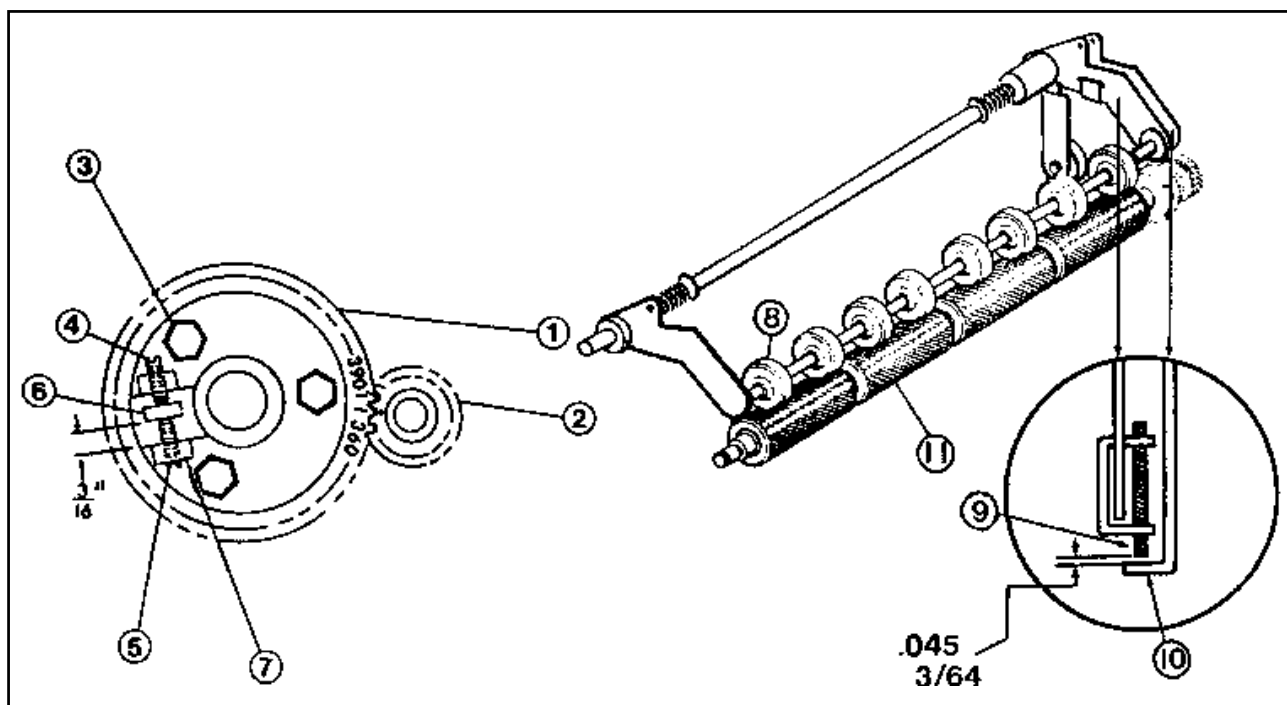

Figure 48 - Paper Buckle Adjustment
2. Check that the 360 timing mark on buckle gear (1) and dot on pinion gear (2) are aligned (see Figure 48).
3. Loosen locking screws (3).
4. Preset screws (4 and 5) for $\frac{3}{16}$ " between cam plate (6) and boss (7) of gear (1).
7. Manually feed a sheet of paper into the grippers until lever (8) just contacts (but does not lift) the adjustment screw (9) on lever (10). The upper forwarding roller (11) must remain in contact with the sheet of paper (see Figure 48).
9. Lift the upper forwarding roller (11), stretch out and release the sheet. Do not pull the sheet out of the grippers.
10. Mark the trail edge of the sheet again. The distance between the two marks should be $\frac{3}{16}$ ". To increase the buckle, adjust the screws (4 and 5) to increase the $\frac{3}{16}$ " dimension between the cam plate (6) and boss (7) of gear (1). Do the opposite to decrease the buckle.
11. Tighten the screws (3).